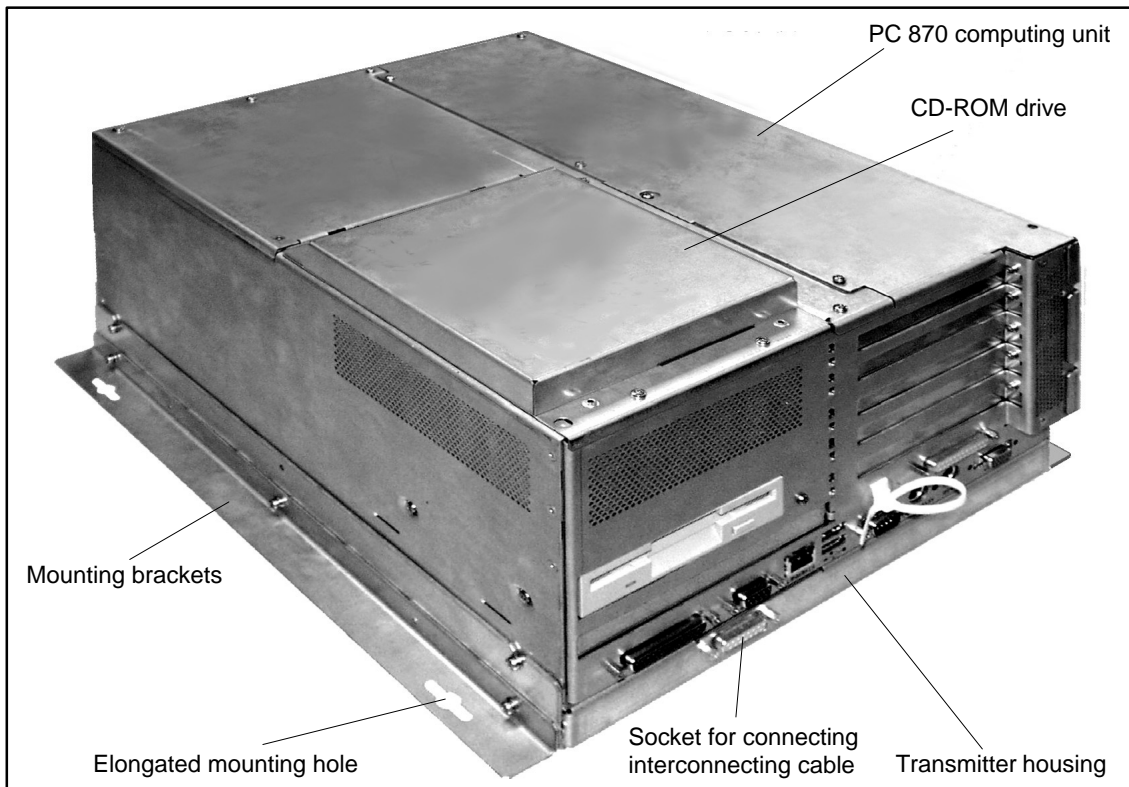

Figure 8-1 Computing unit with attached transmitter
Figure 8-1 shows a PC 870 computing unit (distributed configuration) with the transmitter fitted between mounting brackets.
The device is fitted with the help of four elongated holes in the mounting brackets (refer to Figures 8-1 and 8-2).
2. Unscrew the six fastening screws on the transmitter housing so that the two screws at the rear are only loosened (Figure 8-1).